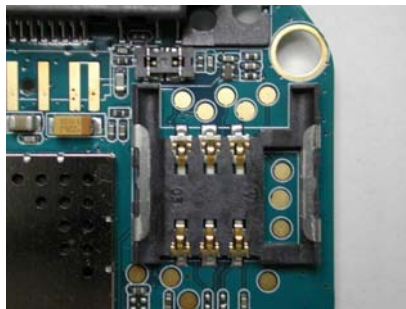

Fig.7.1
- Check that the SIM reader (Fig.7.1) is incorrectly soldered, not mechanical damaged, dirty or oxidized. Replace it if necessary.